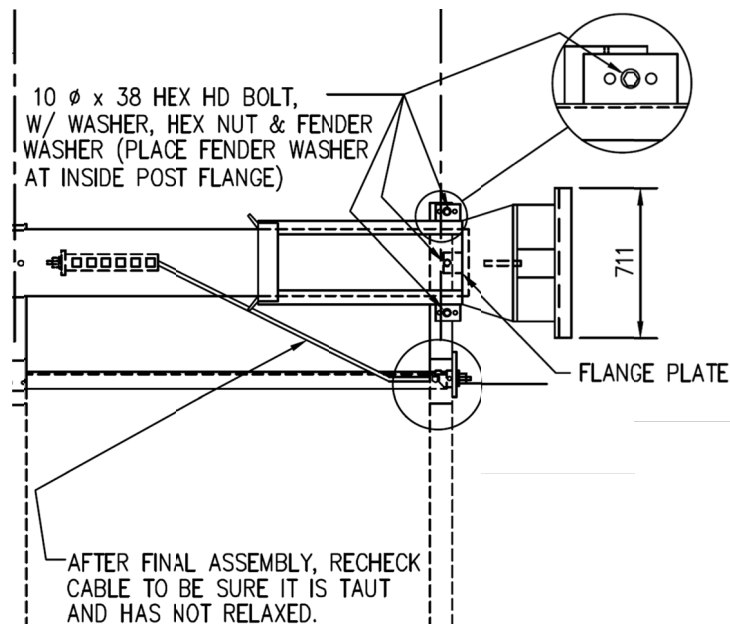

Figure 9
4. Secure both top and bottom Attachment Brackets of the Guardrail Extruder Head (PN 995A) to HBA Top Post 1 (PN 33462A) with a 10 mm diameter x 38 mm hex head bolt (PN 4261G) and a 10 mm flat washer (PN 4254G) under the bolt head. A 10 mm Fender Washer (PN 4255G) and 10 mm lock washer (PN 4258G) are placed between the 10 mm hex nut (PN 6405G) and the flange on the HBA Top Post 1 (PN 33462A) (see Figure 9).